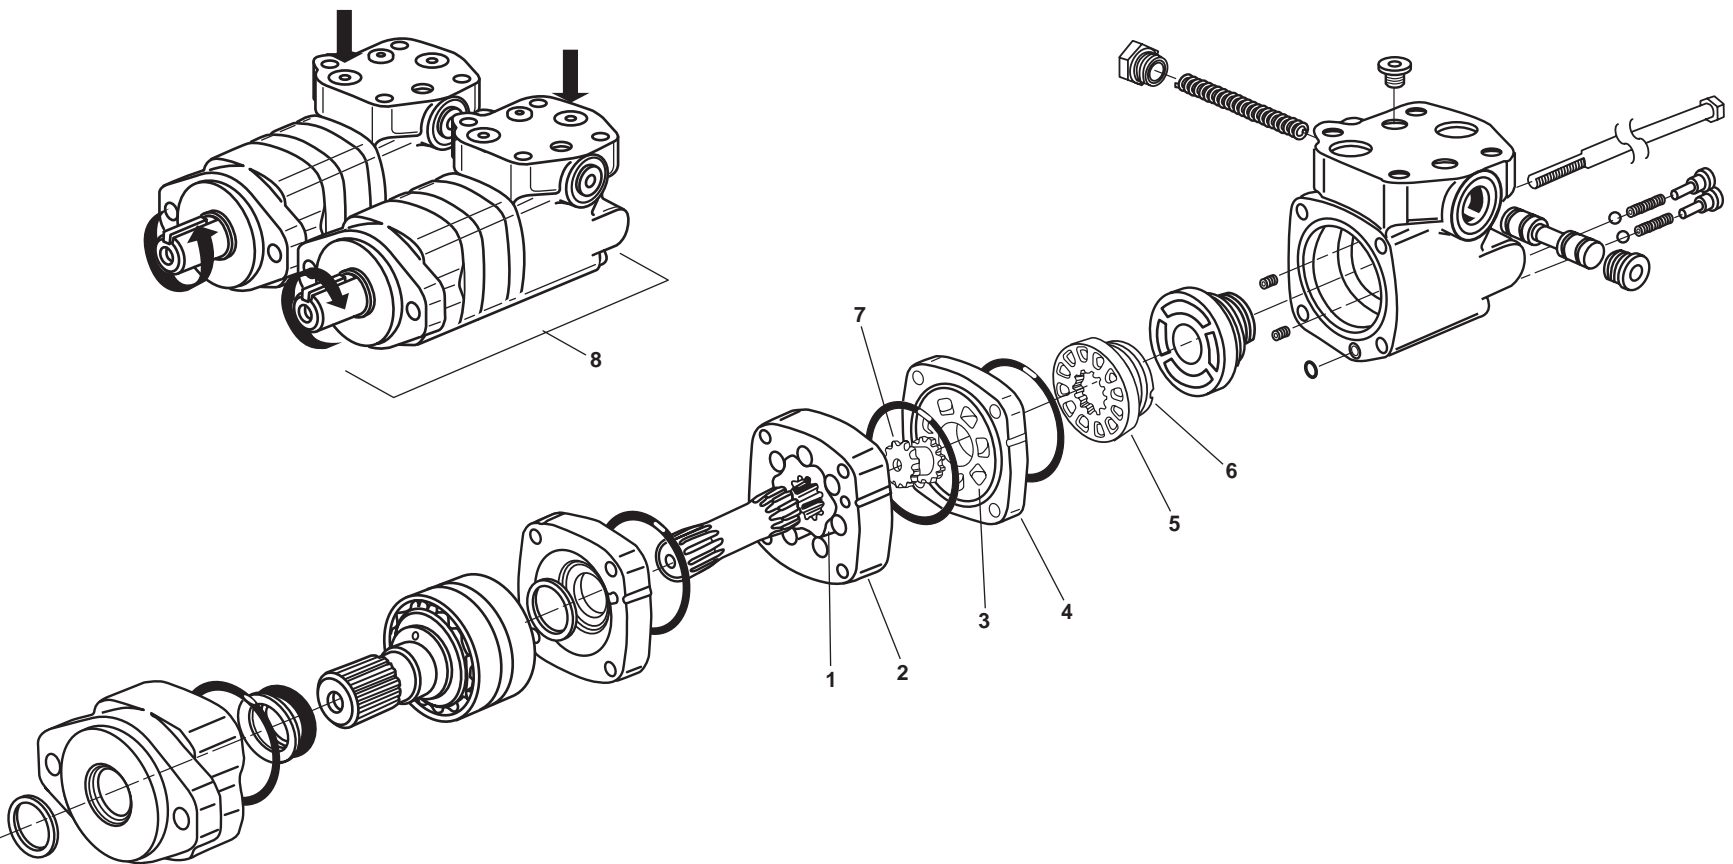

Figure 3. Timing Components of the Hydraulic Motor
15. Locate the largest open pocket (figure 3, item 1) in the geroler (figure 3, item 2) and mark its position.
16. Locate the open slot (figure 3, item 3) in the valve plate (figure 3, item 4) that is aligned with the largest open pocket (figure 3, item 1) in the geroler (figure 3, item 2).
17. Install the valve (figure 2, item 29 and figure 3, item 5) on the valve plate (figure 3, item 4), and align any one of the six ports (figure 3, item 6) that open to the outside of the valve with the open slot (figure 3, item 3) in the valve plate (figure 3, item 4) that is over the largest open pocket (figure 3, item 1) in the geroler (figure 3, item 2).
18. Engage the valve (figure 3, item 5) with the valve drive (figure 3, item 7) by rotating the valve clockwise until the spline teeth mesh (1/2 spline tooth). This will provide the standard rotation (figure 3, item 8) when the hydraulic motor is pressurized.